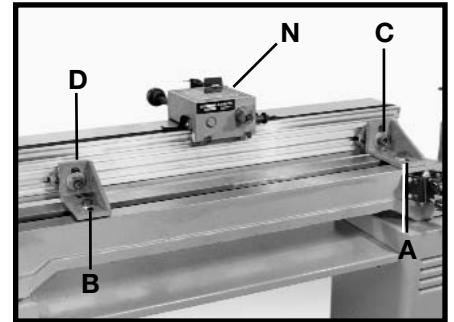
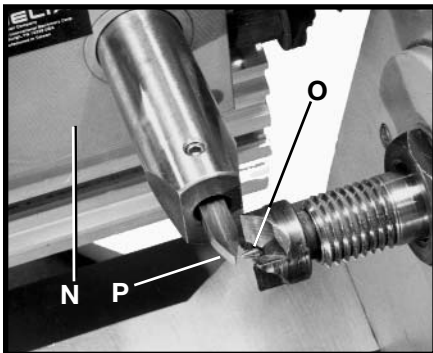
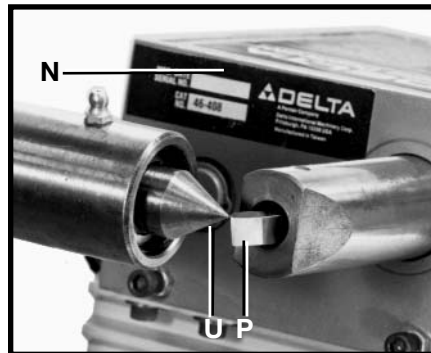
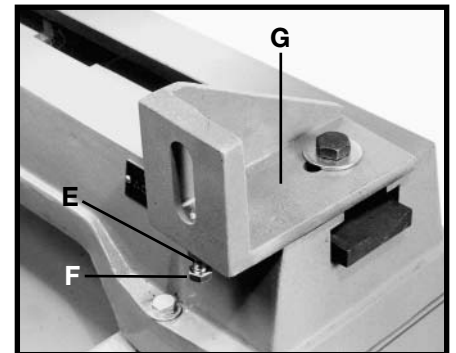

Fig. 64
Fig. 65
Fig. 66
Fig. 67
10. Move duplicator carriage (N) Fig. 64 to the left until the cutting tool is in the same plane as headstock center (O) Fig. 65. Loosen two socket head bolts (A) and (B) Fig. 64. Slide duplicator in or out until point of cutting tool (P) Fig. 65, is aligned vertically (up or down) with point of headstock center (O). Snug-up socket head bolt (A) Fig. 64.
- A. Move duplicator carriage (N) Fig. 64 to the right until point of cutting tool (P) Fig. 66 is in the same plane with point of tailstock center (U). Slide duplicator in or out until point of cutting tool (P) is aligned vertically (up or down) with point of tailstock center (U).
- B. Snug-up socket head bolt (B) Fig. 64. Recheck to make certain point of cutting tool is aligned vertically (up or down) with point of cutting tool at the tailstock centers and tighten two socket head bolts (A) and (B).
- C. Move carriage assembly (N) Fig. 64 to the headstock until point of cutting tool (P) is on the same vertical plane with headstock center (O) Fig. 65.
- D. If the point of cutting tool (P) Fig. 65 is above or below the headstock center (O), loosen two bracket bolts (C) and (D) Fig. 64.
- E. If the point of cutting tool (P) Fig. 65 is below the headstock center (O), loosen locknut on mounting bracket, one of which is shown at (E) Fig. 67, and turn leveling screw clockwise until the edge of cutting tool (P) Fig. 65 contacts headstock center (O). If the point of cutting tool (P) Fig. 65 is above the headstock center (O), turn leveling screw (F) Fig. 67 counterclockwise until the edge of cutting tool (P) Fig. 65 contacts headstock center (O). Snug-up locknut (E) Fig. 67.
- F. Move the carriage assembly (N) Fig. 66 to the tailstock until the point of cutting tool (P) Fig. 66 is on the same plane with tailstock center (U).
- G. If the point of cutting tool (P) Fig. 66 is below tailstock center (U), loosen locknut (E) Fig. 67 on mounting bracket (G) at the tailstock end of the lathe and turn leveling screw (F) until the edge of cutting tool (P) Fig. 66 contacts tailstock center (U). If point of cutting tool is above tailstock center (U), turn leveling screw (F) Fig. 67 counterclockwise until the edge of cutting tool (P) Fig. 66 contacts tailstock center (U). Snug-up locknut (E) Fig. 67 on mounting bracket (G) at tailstock end of the lathe.
- I. Firmly tighten two locknuts, one of which is shown at (E) Fig. 67. Tighten mounting bolts (A), (B), (C), and (D) Fig. 64.